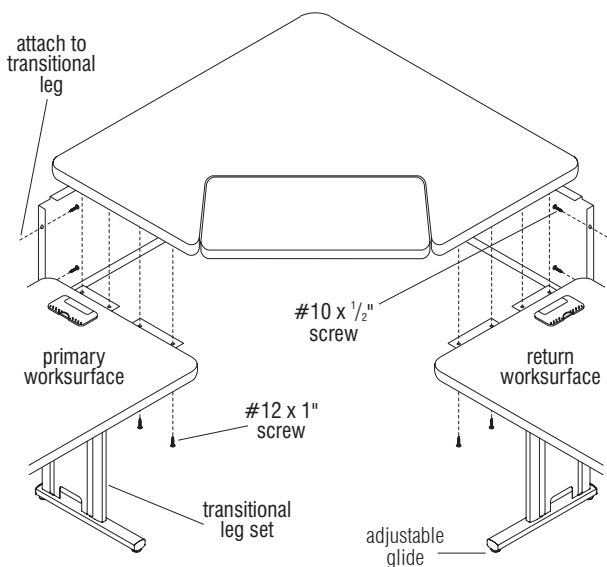

Figure 4
5. Orient the primary and return worksurfaces as illustrated so they are in position to assemble the transitional unit in step 7 (Figure 4).
6. Carefully turn the transitional assembly right side up and set it onto the splice plates of the primary and return worksurface. Align the mounting holes of the splice plates with pre-drilled holes in transitional worksurface. Insert two #12 x 1" screws through each splice plate into the transitional worksurface and tighten (Figure 4).
7. Attach both modesty panels to the adjoining transitional legs of the primary and return worksurfaces with two #10 x 1/2" screws each (Figure 4).
8. Tighten all remaining screws in the worksurface assembly. Level the worksurfaces by turning the adjustable glides either in or out. The jambnuts between the adjustable glides and the bottom of the leg sets must be tightened up against the bottom of the leg to secure the adjustable glides (Figure 4).